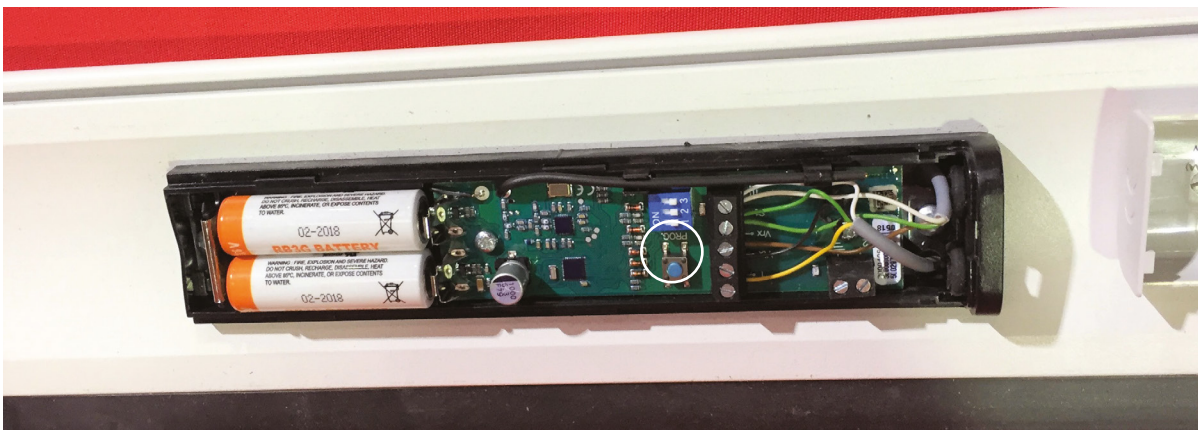
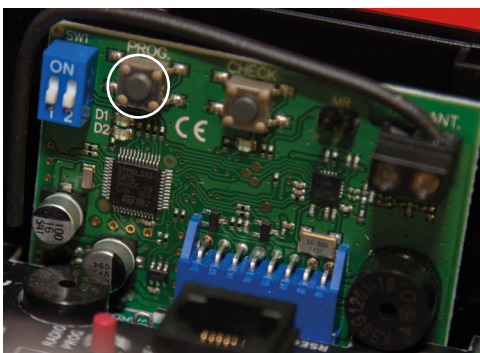

fig.8
fig.9
- 5** Inside the receiver box press and hold the "PROG" button on the receiver card (this is the card plugged onto the board) until you hear a single beep (**fig.9**), then within 5 seconds press and hold the "PROG" button on the wireless safety edge (**fig.8**) and you will hear another beep from the receiver box.